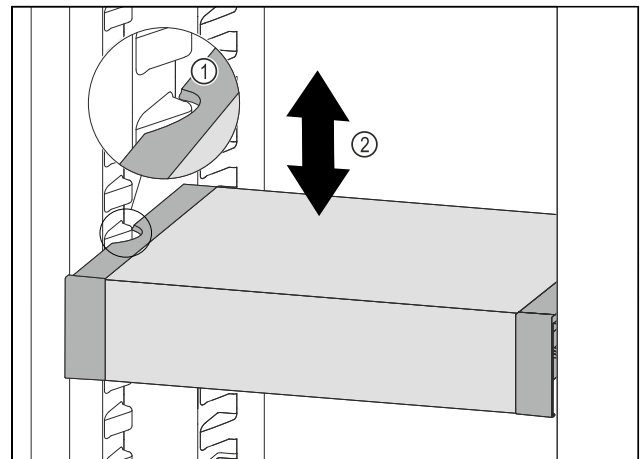

Fig. 139
- ▶ Pull VarioSafe forwards until the recesses in the side of the VarioSafe are at the level of the support rib in the refrigerator compartment. Fig. 139 (1)
- ▶ Move VarioSafe up or down in the refrigerator compartment until the desired height is reached. Fig. 139 (2)